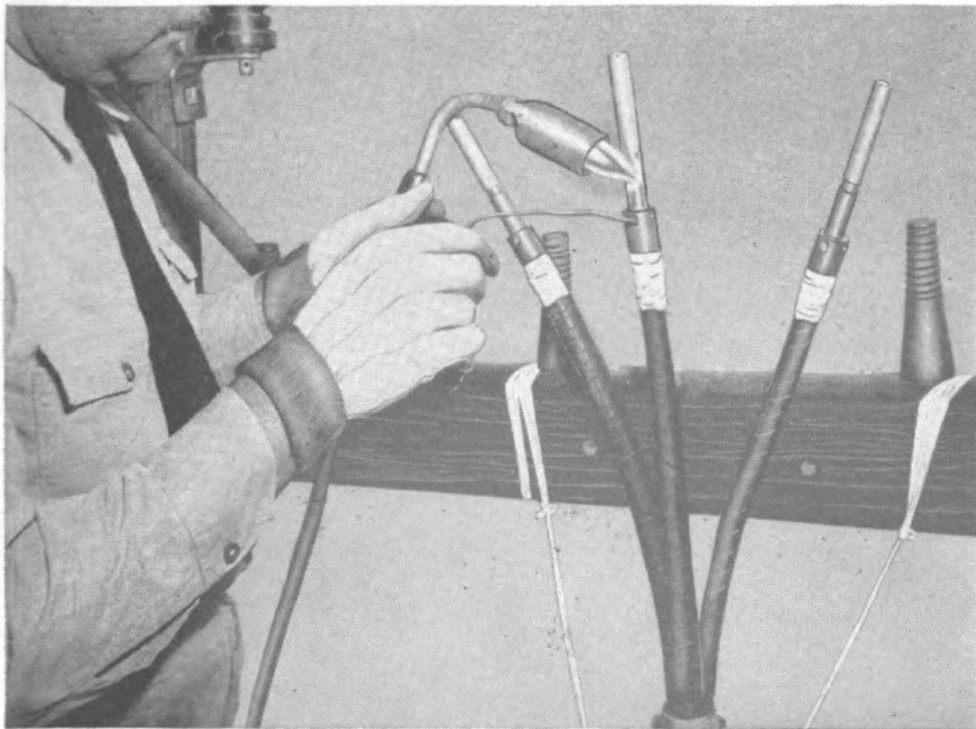

Figure 10-20.—Soldering studs in place.
3. Tin conductor strands and inner surface of stud. Solder the studs by feeding solder through soldering holes while the stud is heated with a blowtorch. (See fig. 10-20.)